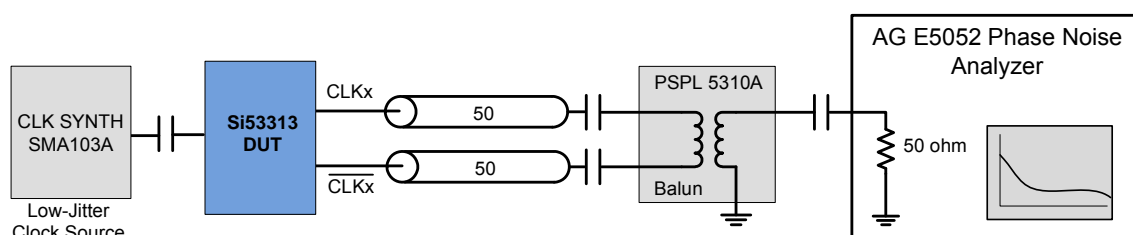

Figure 2. Single-Ended Measurement Method Using a Balun
3. Measured differentially using a balun at the phase noise analyzer input. See Figure 2.
- Measured differentially using a balun at the phase noise analyzer input. See Figure 2.